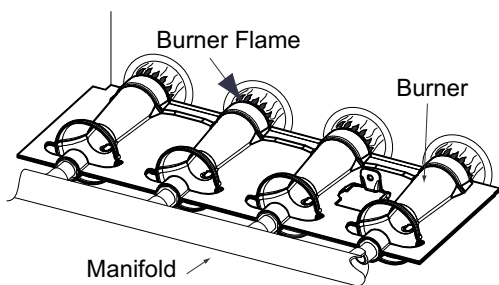

Fig. 65 – Burner Flame
- i. When correct input is obtained, replace cap that conceals gas valve regulator adjustment screws. Main burner flame should be clear blue, almost transparent See Fig. 65.